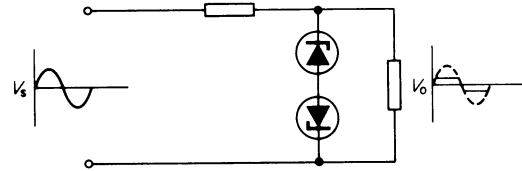

Figure 1.17
In (3), two identical back-to-back Zener diodes can be used in the circuit configuration shown in figure 1.17 to produce an approximate square-wave from a sine-wave input.